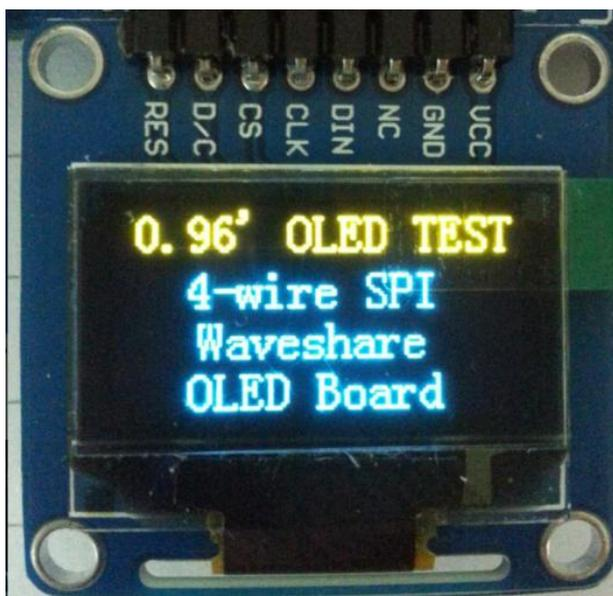

Figure 1: OLED information display under SPI mode
- d) OLED displays information as Figure 1 shows.